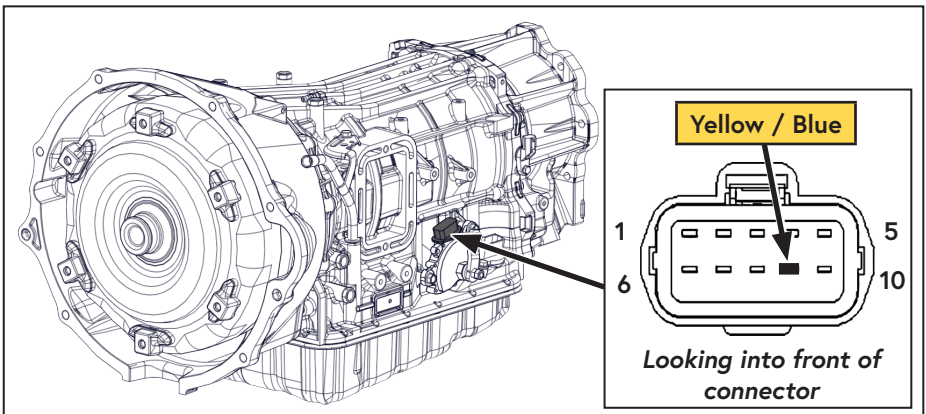

Figure 36 — Park signal connector location (68RFE)
- Locate the 10 pin connector on the driver side of the transmission (Figure 36).